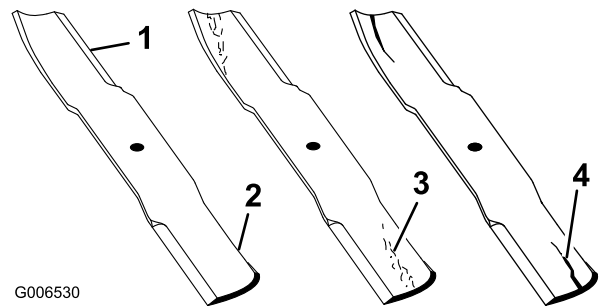

Figure 54
1. Inspect the cutting edges (Figure 54). If the edges are not sharp or have nicks, remove and sharpen the blades. Refer to Sharpening the Blades.